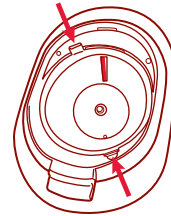

Figure 4a
3. Press the two Ice Hopper release catches and lift the Ice Hopper to remove. *Figure 4a*